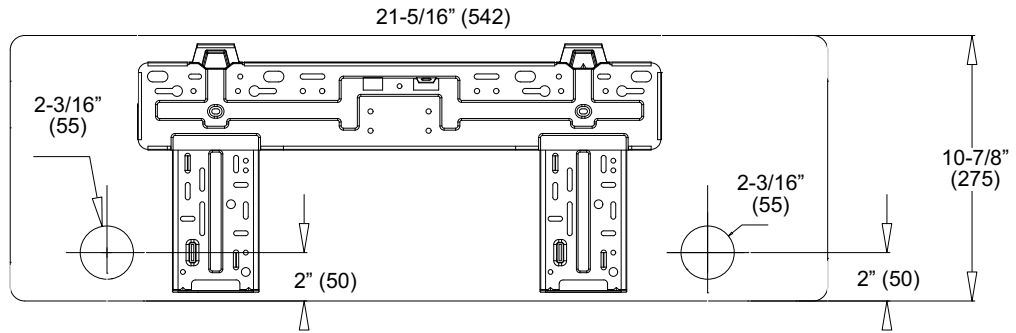

FIGURE 11
3. Use the wall mounting bracket as a template to determine the exit point for the line set, condensate line and indoor / outdoor cable (figure 11).